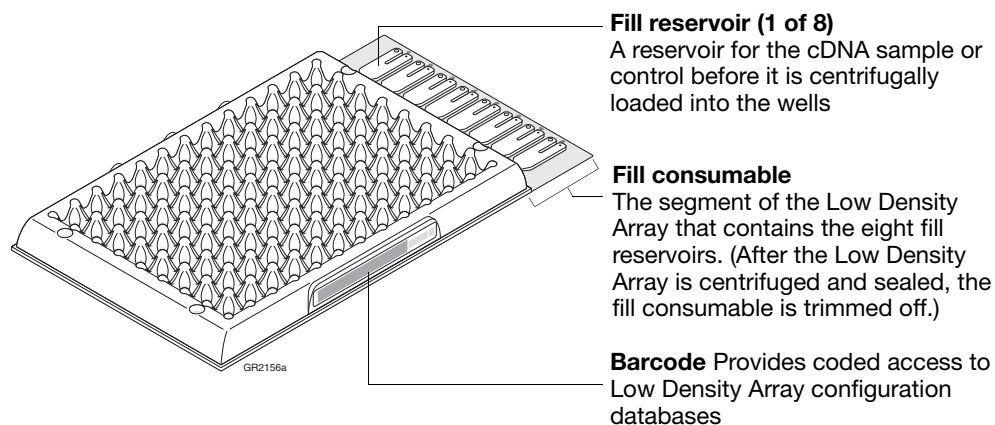

Figure 4-5 The TaqMan Low Density Array
The Low Density Array (Figure 4-5) acts as a vessel for real-time PCR. It consists of a series of 384 interconnected wells divided into eight sets of assays. Each set provides a user-specified number of replicates. Each well contains dried Applied Biosystems TaqMan primers and probes for one mRNA target.
- Do not twist or bend the fill consumable portion of the Low Density Array (Figure 4-5 on page 4-10) before loading.